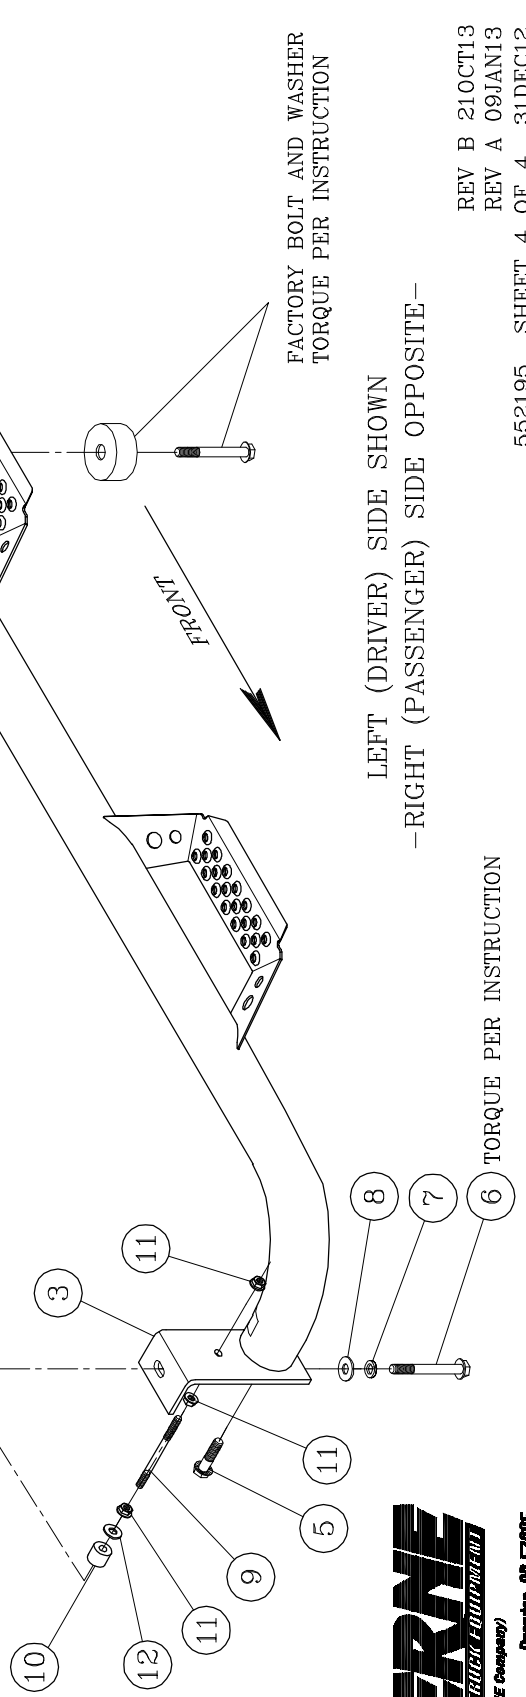

FIG. 2
- 5.3. **2009 TO 2012-** ON THE REAR BODY MOUNT INSTALL THE FACTORY BOLT AND WASHER THRU THE HOLE IN THE BAJA STEP MOUNTING BRACKET AND BODY MOUNT BUSHING AS SHOWN IN **FIG. 2**.